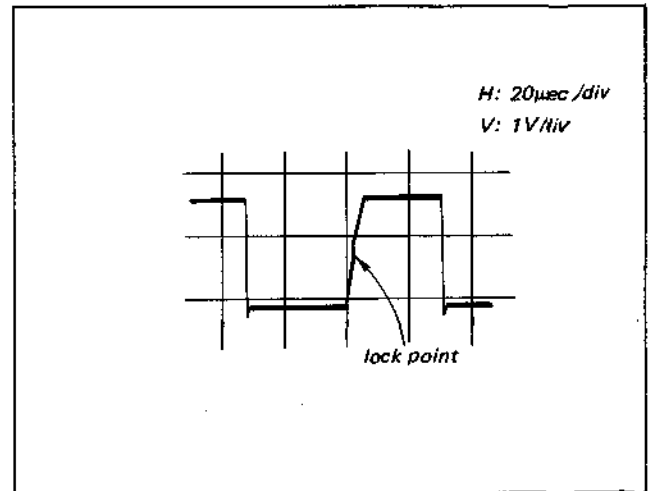

Fig. 4-4-19. AFC adjustment
- (3) Adjust RV21 so that the lock point is the center of the trapezoidal waveform. (See Fig. 4-4-19.)